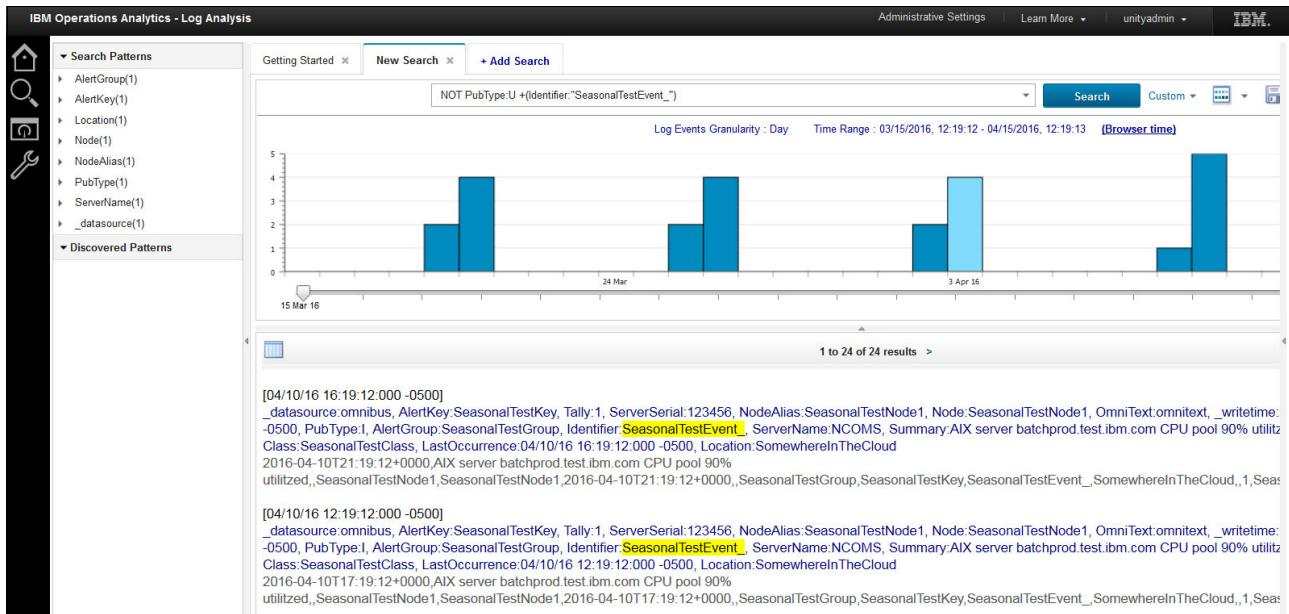

Figure 8-10 IBM Analytics console
8. Joe copies the generated URL by right-clicking the URL and then pressing Ctrl+C. He can paste the URL into web browser and start the Event Viewer directly in IBM Operations Analytics - Log Analysis console, as shown in Figure 8-10.